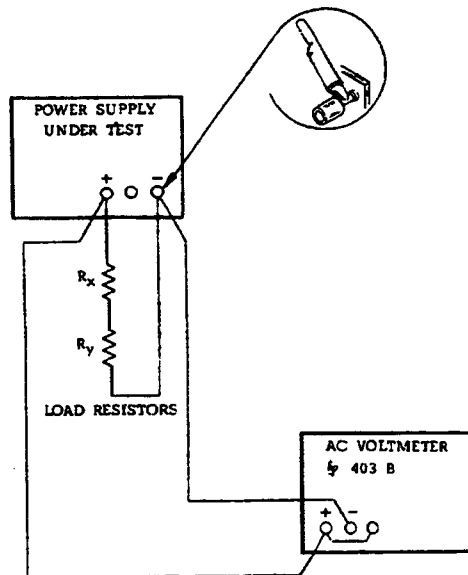

Figure 5-6. Ripple and Noise, Constant Voltage
- Retain test setup used for previous line regulation test except connect AC voltmeter across output terminals as shown in Figure 5-6.